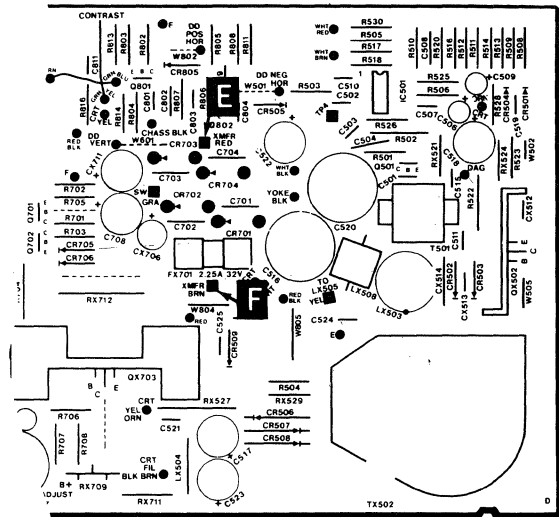

Figure 2.4
5. Refer to Figure 2.4 and unsolder the two 120-volt transformer leads at E and F on the main circuit board. Note how these
- Refer back to Figure 2.4 and solder the red and brown transformer leads to E and F on the main board.